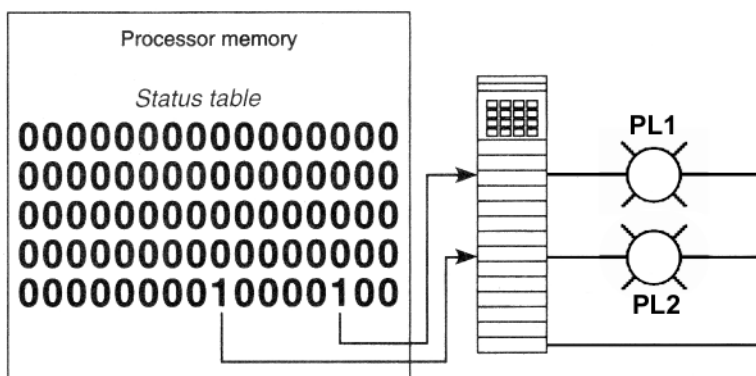

Figure 2-13 I/O module and table for question 45.
45. Answer each of the following for the I/O module and status table shown in Figure 2-13.